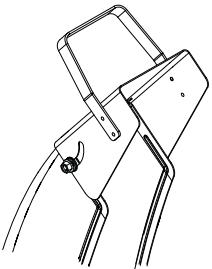

Figure 17
2. Pull deflector handle up or to the rear to throw snow higher (Figure 17).